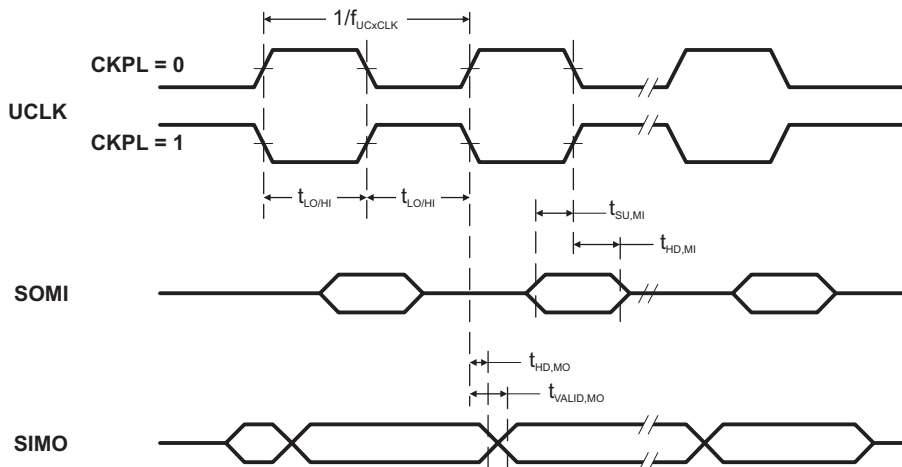
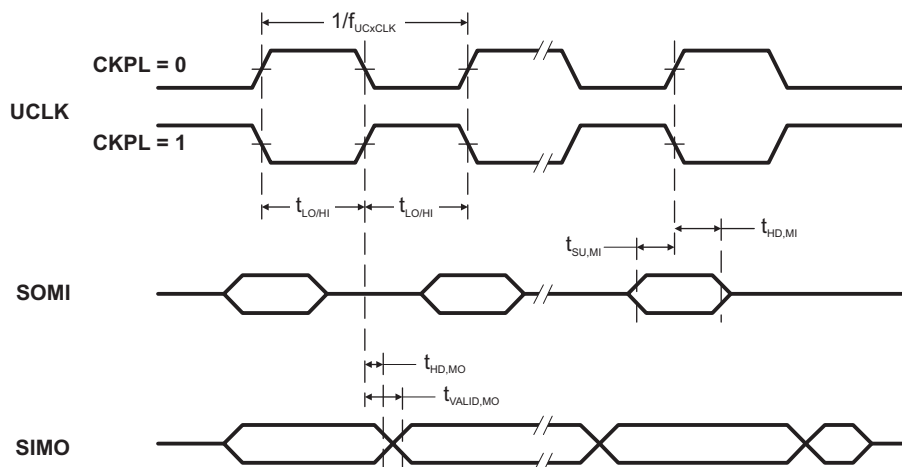

Figure 5-13. SPI Master Mode, CKPH = 0
Figure 5-14. SPI Master Mode, CKPH = 1
(see Note ⁽¹⁾, Figure 5-13 and Figure 5-14)
(2) Specifies the time to drive the next valid data to the SIMO output after the output changing UCLK clock edge. See the timing diagrams in Figure 5-13 and Figure 5-14.
(3) Specifies how long data on the SIMO output is valid after the output changing UCLK clock edge. Negative values indicate that the data on the SIMO output can become invalid before the output changing clock edge observed on UCLK. See the timing diagrams in Figure 5-13 and Figure 5-14.
- Specifies the time to drive the next valid data to the SOMI output after the output changing UCLK clock edge. See the timing diagrams in Figure 5-13 and Figure 5-14.
- Specifies how long data on the SOMI output is valid after the output changing UCLK clock edge. See the timing diagrams in Figure 5-13 and Figure 5-14.